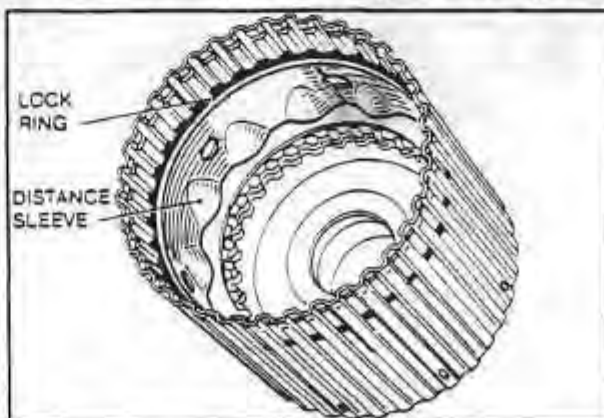

Fig. 62 C-2 DISTANCE SLEEVE
2. Remove the lock ring and distance sleeve. *Fig. 62*